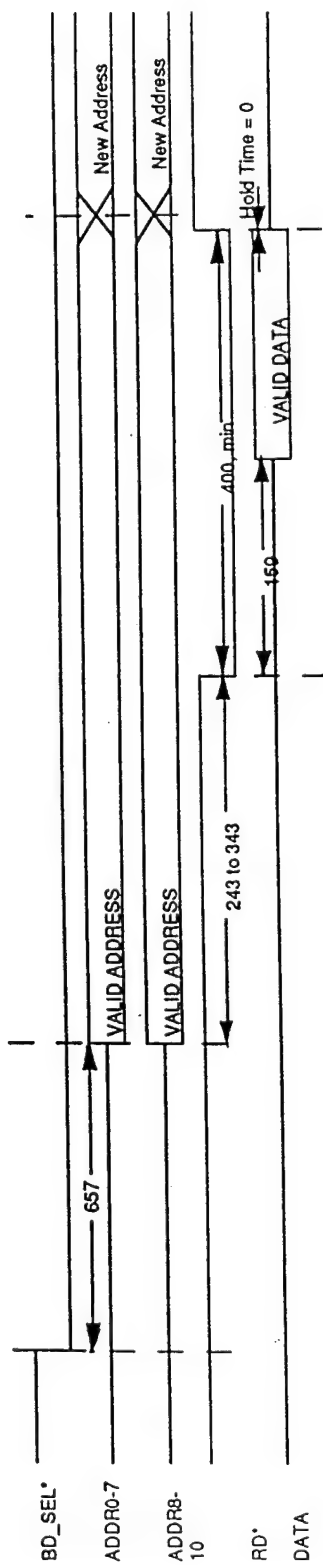

FIGURE 11 - Read Cycle Timing
3.3.1 RD*. An 8051 external data read cycle. The 8051 is running at 12 Mhz. Read cycle timing is shown in Figure 11.